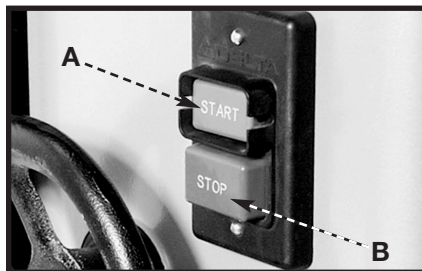

Fig. 16
To apply power to the machine, push "ON" button (A) Fig.16. To stop the machine, push "OFF" button (B).